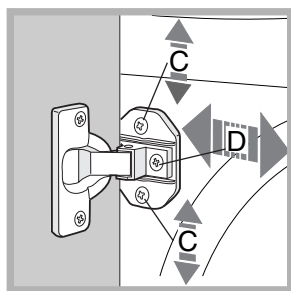

Fig. 7
- To adjust the position of the wooden panel in both the vertical and horizontal directions, use the **C** and **D** screws, as shown in *fig. 7*.